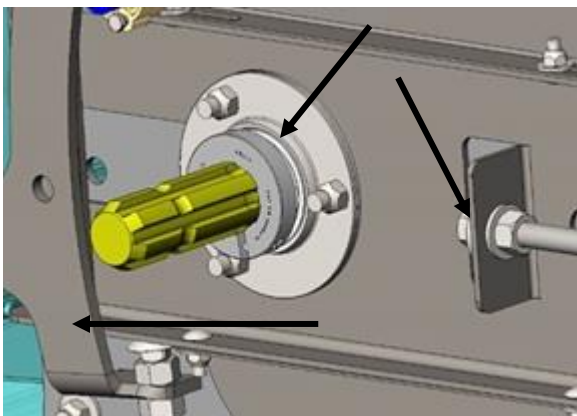

Figure 10
4. On the left-hand side remove the bearing flange, limit stop bracket, and the sensor if equipped. Remove the mounting plate by removing the rear attachment bolt. Figure 10